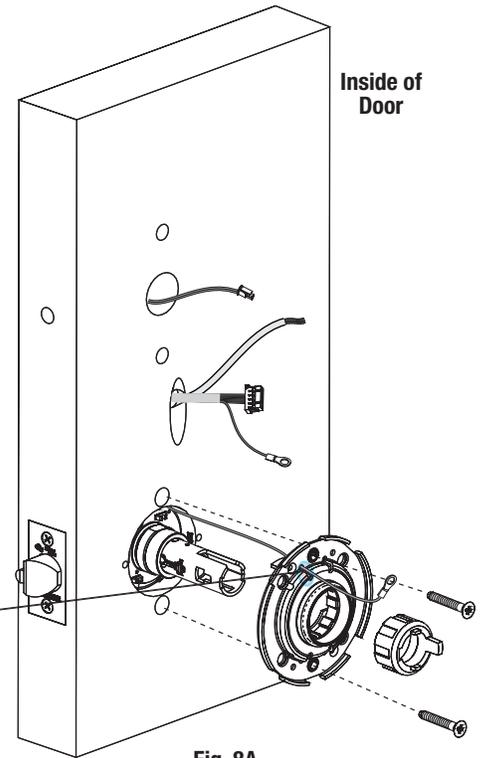

Fig. 8A
- For wood door, feed connectors and wires through the door and up the wire run channel (Fig. 8A).
2. Position ground lug between (top) #10-32x1-1/4" through-bolt and rose assembly (Fig. 8A).
NOTE: Proper placement of ground wire (Fig. 8A, B) will prevent pinching/damage to the ground wire.